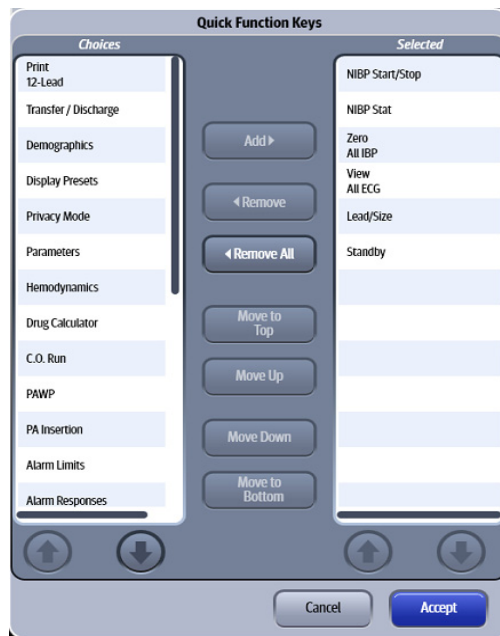

FIGURE 25-2 Example Quick Function Keys Dialog
3. Select the **Quick Functions** button. The Quick Function Keys dialog displays (as shown in FIGURE 25-2).
NOTE: The order of the keys shown in the Quick Function row of the Navigation Area is dependent on how the keys are ordered in the Quick Function Keys dialog list box. For example, in FIGURE 25-2, the NIBP Start/Stop key is listed first and displays as the first button in the Quick Functions row.